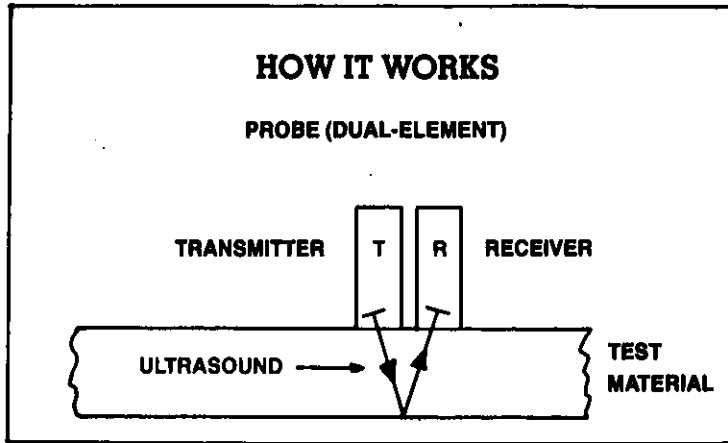

Figure 4.1 Ultrasonic Pulse-Echo Principle
Figure 4.1 basically explains how the ultrasonic pulse-echo principle is employed by the **NOVA 100-D** and its dual element probe (transducer). The probe's transmitter element (T) sends a short ultrasonic pulse into the material. The pulse, reflected as an echo from the opposite, parallel surface of the material, subsequently returns to the probe's receiver element (R).